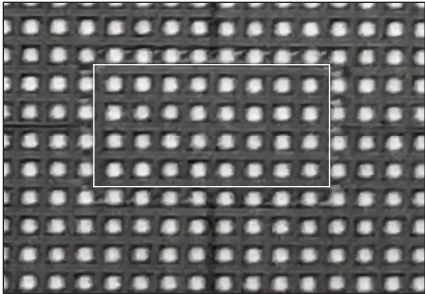

Figure 51: Tile Mask Jiggling Piece
10. Place mask jiggling pieces (MP-4021293) in the corners of the tile spanning between four tiles. There should be a 1/2 pixel space between the main mask and the jiggling mask. Refer to **Figure 51**. Do not place jiggling pieces around the perimeter of the display.